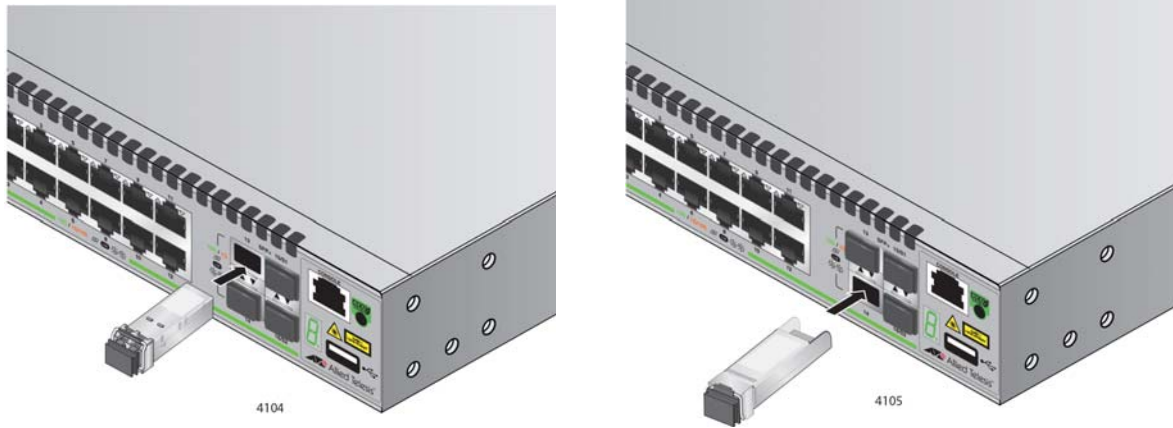

Figure 68. Installing an SFP/SFP+ Transceiver
4. Slide the transceiver into the slot until it clicks into place. See Figure 68.